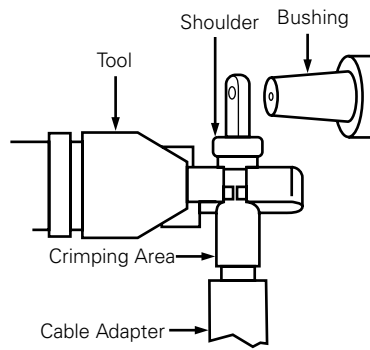

Figure 22. Line illustration of crimping area.
- Make first crimp .5" (13 mm) below shoulder of compression connector. (Refer to Figure 22.)